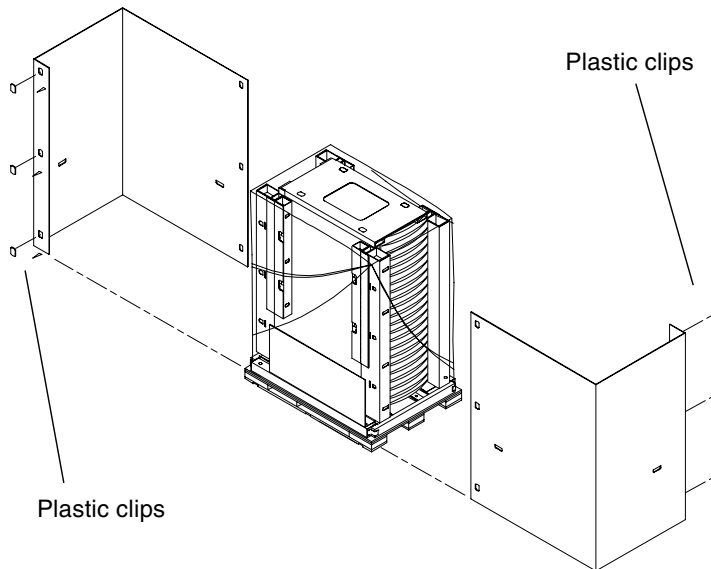

FIGURE 2-2 Unpacking the Sun Fire 6800 System—Step 2
2. Remove the plastic clips that keep the two main sections of the shipping carton together (FIGURE 2-2).